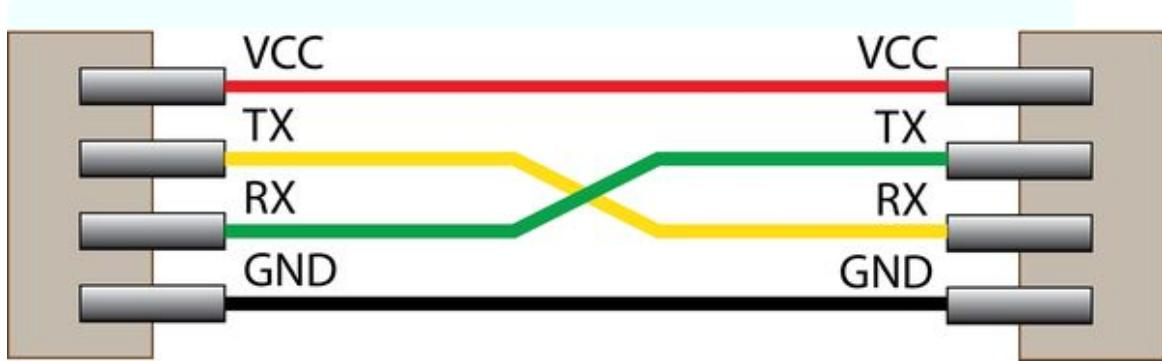

Figure 24-1. In this basic serial connection, each side's transmit connects to the other side's receive
In some cases, no higher standard is named. It's plain old serial (no acronym). The telemetry receiver connects to the flight controller using four wires: power (often called Vcc), ground (GND), transmit (TX), and receive (RX). For two computers to talk this way each one's TX must be connected to the other's RX; then one usually supplies power to the other, as shown in Figure 24-1.
Thankfully, you don't need to read those documents to connect an I2C compass to your flight controller, but here are a few things that might help when using I2C. Notice that the basic serial wiring diagram (Figure 24-1)